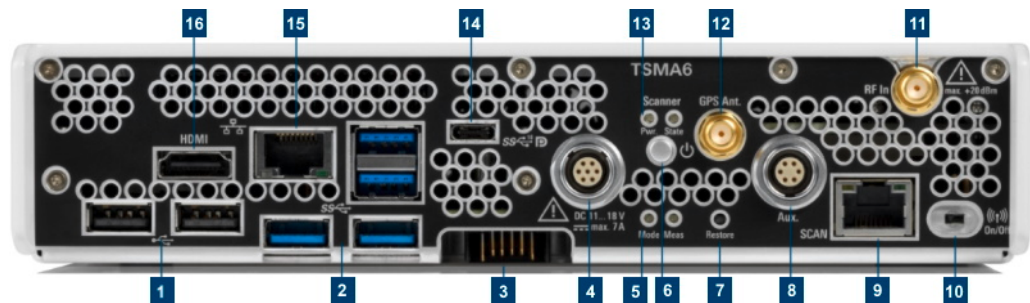

Figure 3-8: R&S TSMA6 - Rear Panel
- ▶ Connect test mobile phones to USB 3.0 / USB-C ports (see Figure 3-8 - 2, 14).
1. Ensure that the rating of the DC supply network matches the requirements printed on the casing next to the DC input, see (8) in Figure 3-8.
See (1) in Figure 3-8.
See (2) in Figure 3-8.
See (3) in Figure 3-8.
See (4) in Figure 3-8.
See (6) in Figure 3-8.
See (7) in Figure 3-8.
See (8) in Figure 3-8.
See (9) in Figure 3-8.
See (10) in Figure 3-8.
See (11) in Figure 3-8.
See (12) in Figure 3-8.
See (14) in Figure 3-8.
See (15) in Figure 3-8.
See (16) in Figure 3-8.